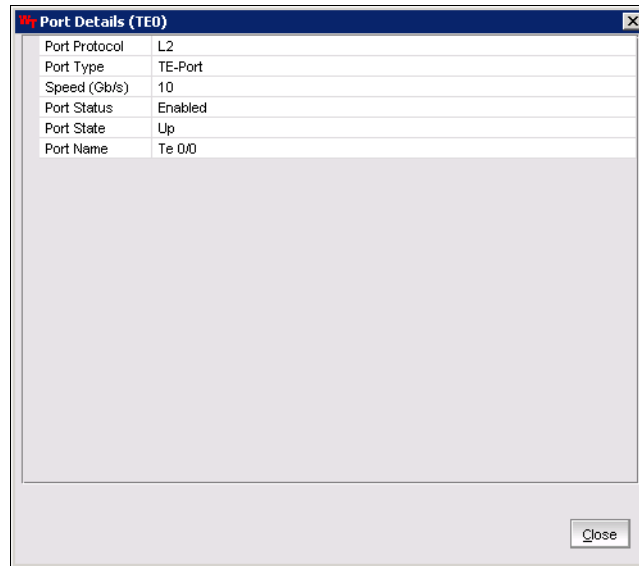

Figure 5-3 Port Details
- ▶ Right-click a port, and select **Port Details**. A Port Details dialog box is displayed (Figure 5-3). The information displayed is a subset of the information available on the General tab of the Port Administration panel.